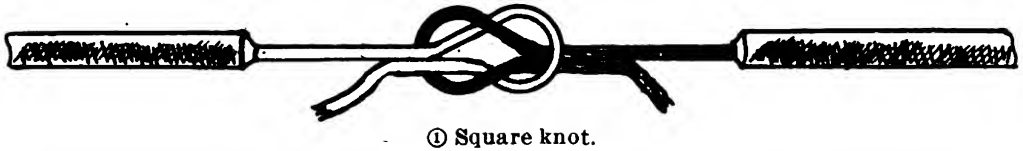

FIGURE 44.—Flexible wire splice.
*d.* To get a splice which will withstand tension in flexible stranded wire, knots may be required. A square knot with the ends wrapped around the remaining bare section of wire makes a good splice for small flexible wire. (See fig. 44.)